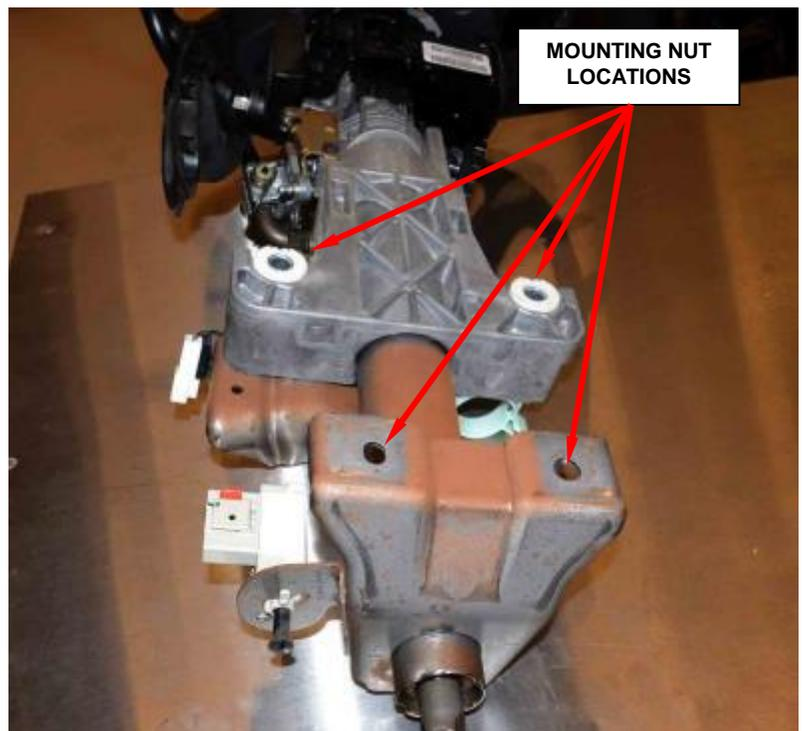

Figure 71 - Steering Column Mounting (Column Removed for Photographic Purposes)
16. Remove the four steering column mounting nuts (Figures 71 and 72).